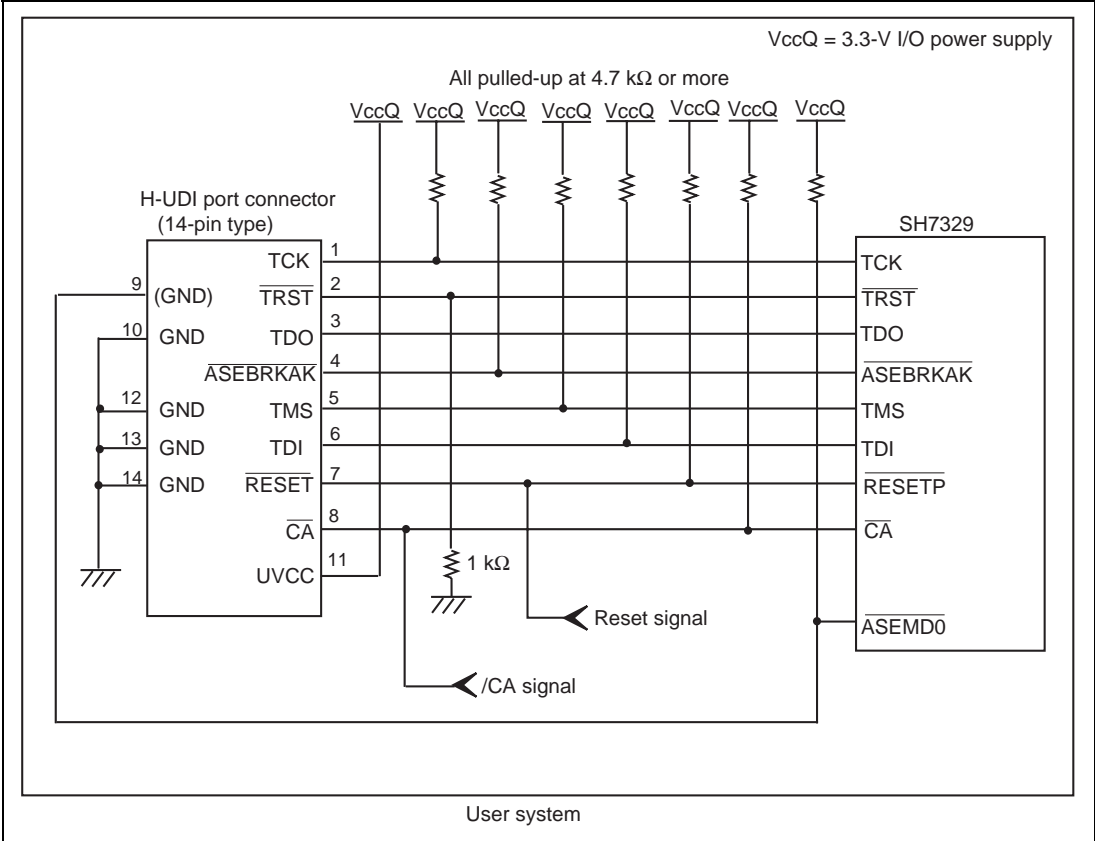

Figure 1.4 Recommended Circuit for Connection between the H-UDI Port Connector and MPU when the Emulator is in Use (14-Pin Type UVCC Connected)
Figure 1.4 shows a recommended circuit for connection between the H-UDI and AUD port connectors (14 pins) and the MPU when the emulator is in use.
- (1) When the emulator is used: /ASEMD0 = 0
- (2) When the emulator is not used: /ASEMD0 = 1Figure 1.4 shows an example of a circuit that allow the /ASEMD0 pin to be GND (0) whenever the emulator is connected by using the user system interface cable. When the /ASEMD0 pin is changed by switches, etc., ground pin 9. Do not connect this pin to the /ASEMD0 pin.
8. Since the H-UDI and the AUD of the MPU operate with the VccQ, supply only the VccQ to the UVCC pin. Make the emulator's switch settings so that the VccQ will be supplied (SW2 = 1 and SW3 = 1) (as shown in figure 1.4).
When the circuit is connected as shown in figure 1.4, the switches of the emulator are set as SW2 = 1 and SW3 = 1. For details, refer to section 3.8, Setting the DIP Switches, in the Debugger Part of the SuperH™ Family E10A-USB Emulator User’s Manual.